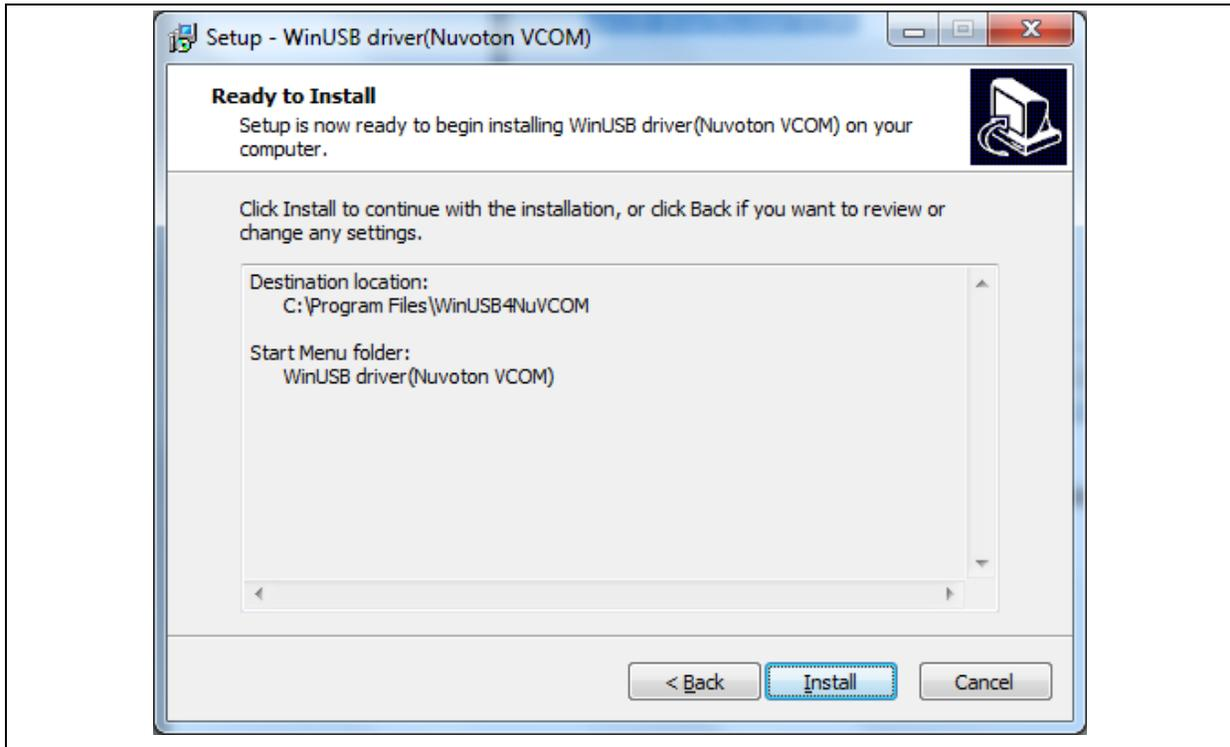

Figure 2-5 WinUSB4NuVCOM Driver Setup (5)
Step 5: Press "Install" (Figure 2-5).